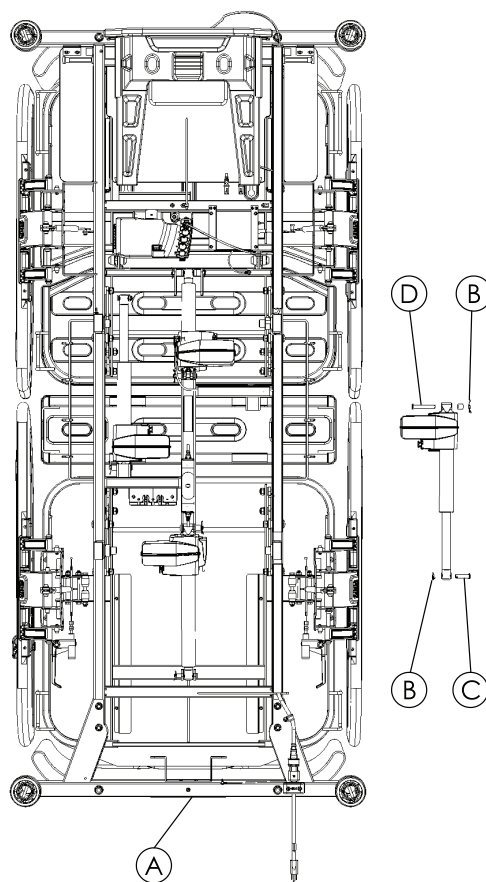

Figure 4: Head end lift actuator
2. Support the head end litter cross brace (A) to support the head end litter (Figure 4 on page 41).
6. Using needle nose pliers, remove and discard the rue ring cotter pins (B) from each clevis pin (Figure 4 on page 41).
7. Using one hand, support the head end lift actuator and remove and discard the head end clevis pin (C) then allow the head end lift actuator to pivot down (Figure 4 on page 41).
8. Using one hand, support the head end lift actuator and remove and discard the foot end clevis pin (D) and spacer (Figure 4 on page 41).